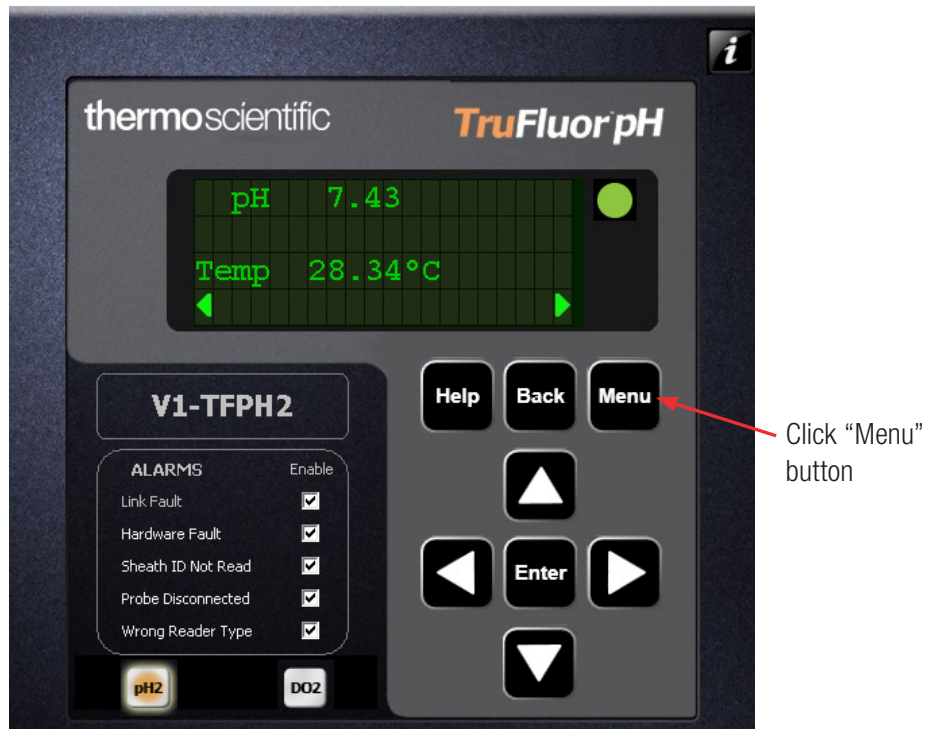

Figure 2.13. TruFluor pH window.
1. In the TruFluor pH window, click **Menu** (Figure 2.13).